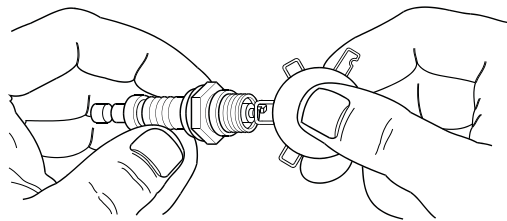

Figure 4-3: Spark Plug Gap Adjustment
5. Check the spark plug gap using a wire feeler gauge. See Figure 4-3. Adjust the gap by carefully bending the ground electrode to: